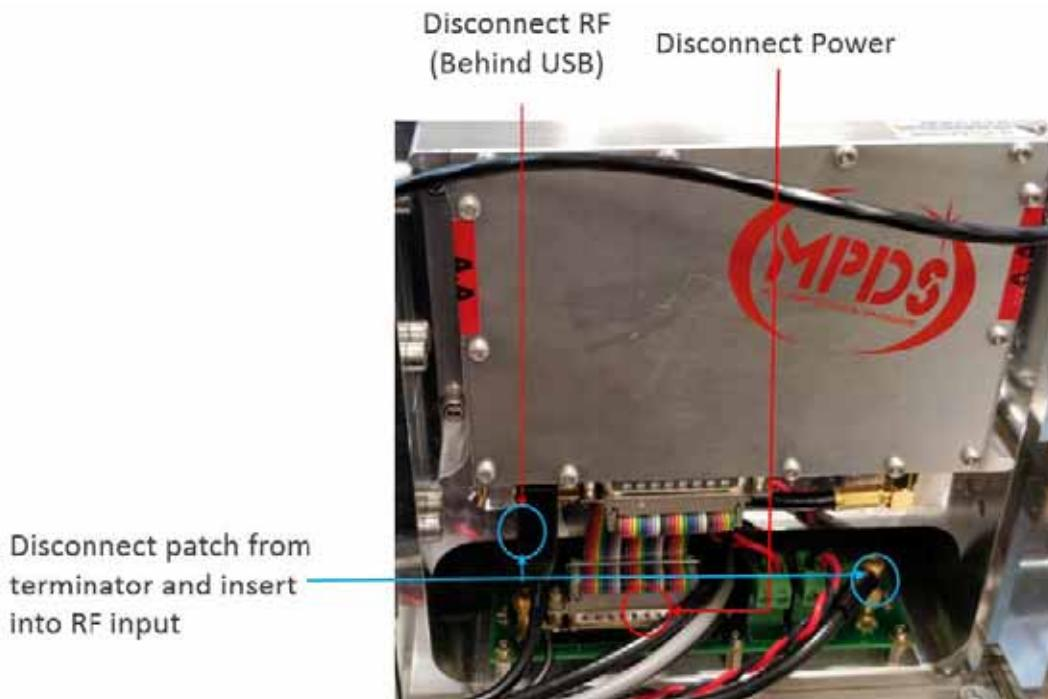

Figure 5.8-1. Direct RF Driver Configuration
3. Follow the directions as indicated in Figure 5.8-1.